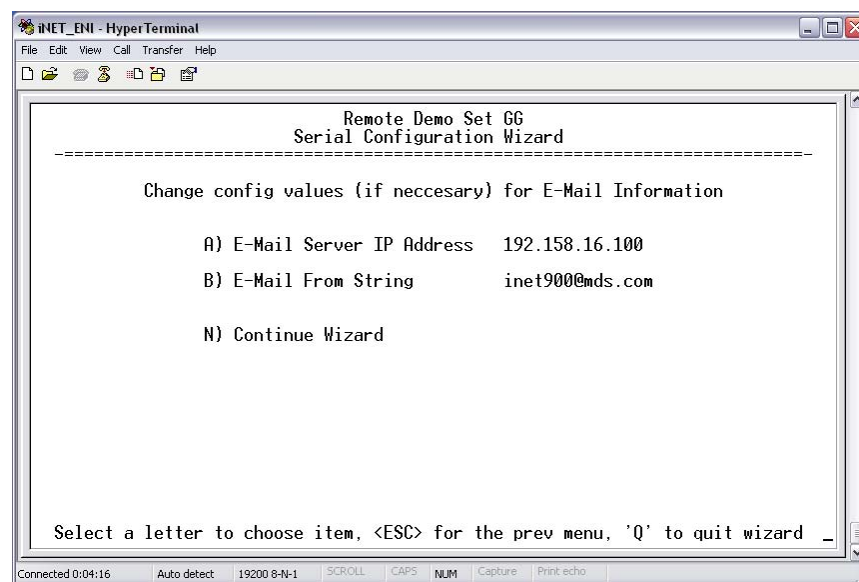

Figure A-5. Enter E-Mail Server IP Address and E-Mail From String
4. Press **A** to enter the IP address of the optional e-mail server, then press **B** to enter the **E-Mail From string** (the text that identifies who the sender was). See Figure A-5. When finished, press **N** to continue.
NOTE: The fields shown in Figure A-5 are equivalent to the *E-Mail Settings* table discussed in the *Allen-Bradley MicroLogix™ Ethernet Interface User Manual (1761-UM006C-EN-P)*. Refer to that manual for more information.